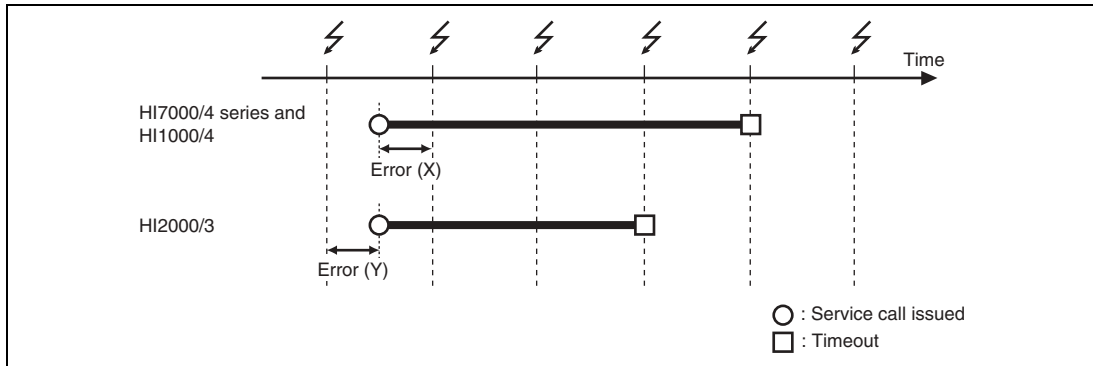

Figure 1.74 Error in tslp_tsk(3) Processing
See figure 1.74 for errors (X) and (Y).